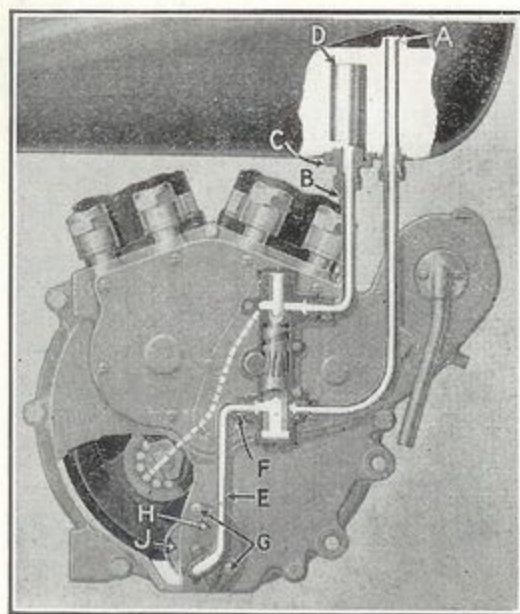
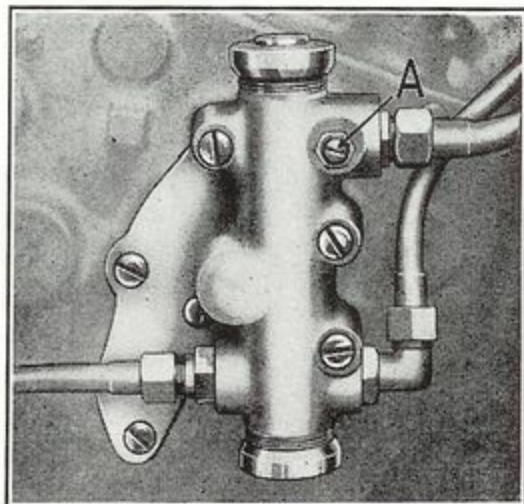

Figure 1
Figure 2
The lubricating system on models 236, 336, 536 and 636 is what is known as dry sump lubrication, which means that the oil is pumped from the tank to the motor in sufficient quantity to lubricate properly all parts of the motor at maximum speed, after which the surplus oil is returned to the tank by means of a return pump. Note Figure 1.
**Models 236, 336, 536 and 636**—The amount of oil being pumped into the motor is regulated by means of screw A (Fig. 2). When this screw is screwed in to its limit, the pump is completely shut off; and when it is screwed out five turns, the pump is wide open. The adjusting screw is set at 4 turns at the factory and should not be disturbed, as overloading the motor will only result in a waste of oil through the breather. In extreme hot weather, when the oil is thin, it might be advisable to cut the adjustment to a  $3\frac{1}{2}$  turn; and in extremely cold weather, when the oil is heavy, it might be advisable to increase the adjustment to  $4\frac{1}{2}$  turns. With the motor idling, note that the oil is returning to the tank through tube A (Fig. 1). The oil should not return to the tank in a steady stream, but should return intermittently with considerable air bubbles mixed with the oil.
With the motor idling, note that the oil is returning to the tank through tube A (Fig. 1). The oil should not return to the tank in a steady stream, but should return intermittently with considerable air bubbles mixed with the oil.
On dry sump models it will be necessary to occasionally flush the oil tank with clean gasoline and also to remove and clean the crank case screen J (Fig. 1, page 4). When reassembling make sure that there are no air leaks in tube E or lower housing and that the disc valve is clean and has a perfect seat.